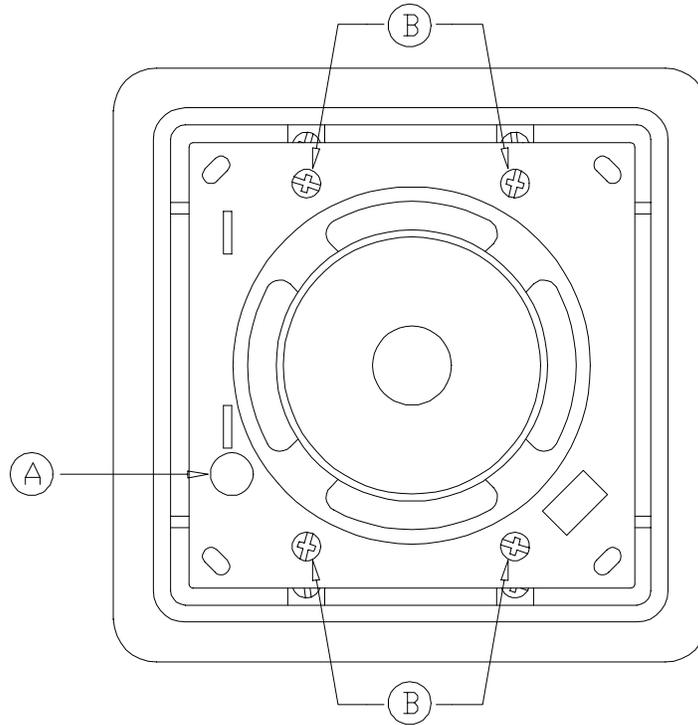

Figure 2 - Installing the Speaker/Microphone Assembly
6. Route the microphone wires from the Two-Way Voice Module through the hole in the speaker/microphone assembly marked "A" in Figure 2.
9. Secure the speaker/microphone assembly to the backbox using the provided screws (Figure 2).